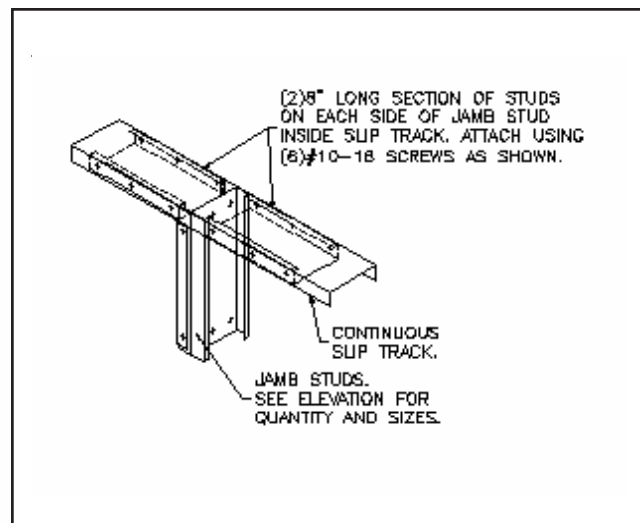

FIGURE 5
4. Reinforcing blocking at jamb locations - Use stud blocks to stiffen the deflection track, see Figure 5. In this case both track legs are resisting the load provided the screws can transfer the load to the other leg. If enough screws are used the capacity may be doubled as compared to deflection track without reinforcement.